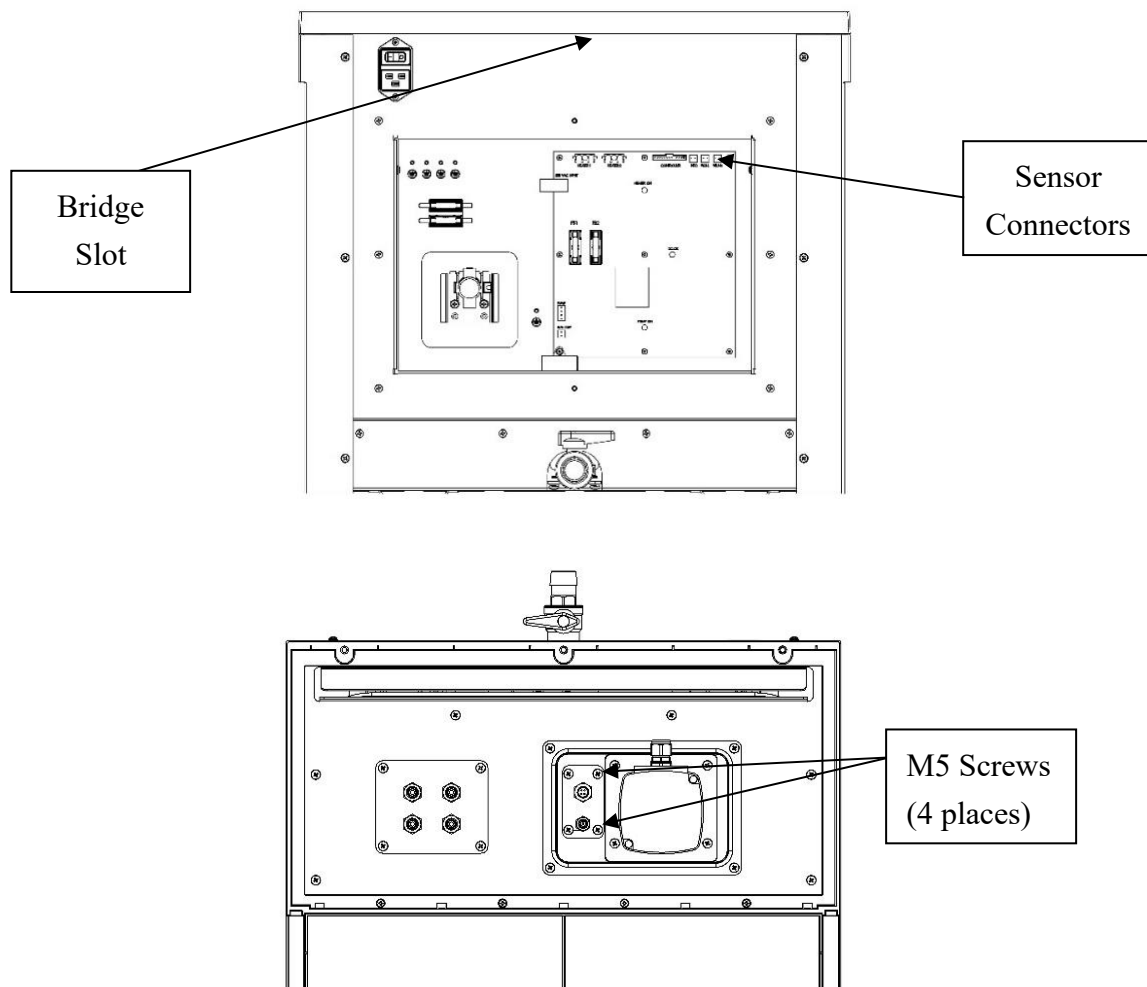

Figure 5 – Top View of SCA with Top Cover Removed
- c. Unplug the three sensor connectors from the PCB (See **Figure 5**).